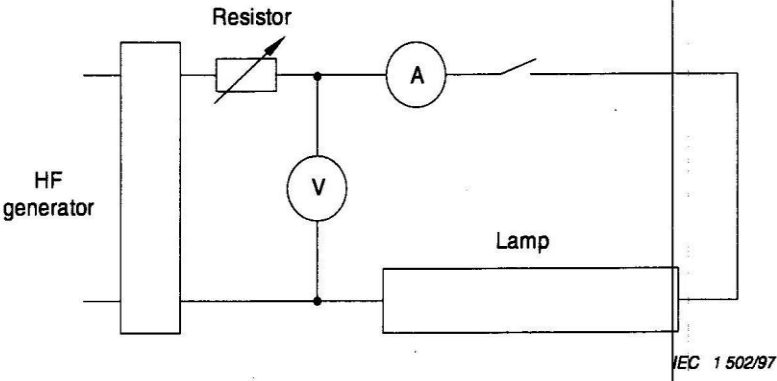

Figure A.5 – Circuit diagram for starting test for lamps with non-preheated cathodes for operation on high frequency
- figure A.5 for lamps with non-preheated cathodes